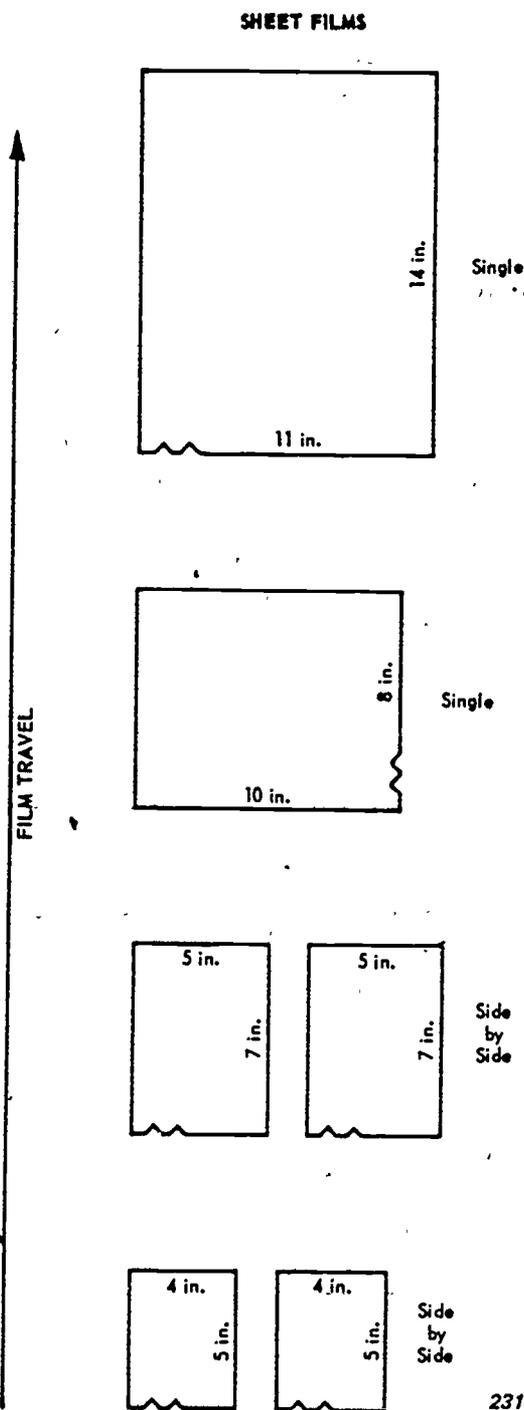

Figure 4-11. Feeding sheet film.
(1) Turn on the main (wall-mounted) power-source switch and outside water source.
(2) Turn on the dryer fan, main drive, and developer recirculating pump switches. If you are processing sheet film, press the replenishment pump switch to AUTO. If you are processing continuous lengths of thin base roll film, press this switch to MANUAL.
(3) Set the developer and wash temperatures.
(4) Set your developer and fixer replenishment rates by turning the appropriate flowmeter control knobs.
(5) After all temperatures have been reached, you can set your transport speed and begin processing.
(6) Prior to processing mission film, you should feed test film emulsion up into the processor and carefully monitor film movement through all sections. The film should then be checked for dirt and scratches which would indicate damaged, corroded, or dirty rollers.
(7) Once all is set you can start feeding your mission film emulsion side up. Be sure that the film edge (sheet film) is square with the side edge of the feed tray; then advance the film until it is picked up by the rotating detection rollers. Do not feed films less than 5 inches long. Figure 4-11 shows typical feed configuration for sheet film. Narrow films are fed side by side to avoid overreplenishment.
(8) Remember, when you are processing narrow roll film (or thin sheet film), splice a stiffening tab (bullit) made from leader material to the leading edge of the film. The butt splice is held together with Mylar tape which is impervious to chemicals. The purpose of the bullit is to guide the film through the machine.
(9) Once you have completed your processing you can shut down the machine by following these steps: Decrease the machine speed to 5 feet per minute; turn the dryer thermostat OFF, remove the top cover and side covers of the processor; turn the replenisher switch OFF; turn the developer recirculation switch OFF; turn the dryer fan OFF; turn the water OFF; remove and clean all crossovers using warm water not above 120 degrees; wipe down the crossover correctly; replace the side and top cover and turn OFF the main power.